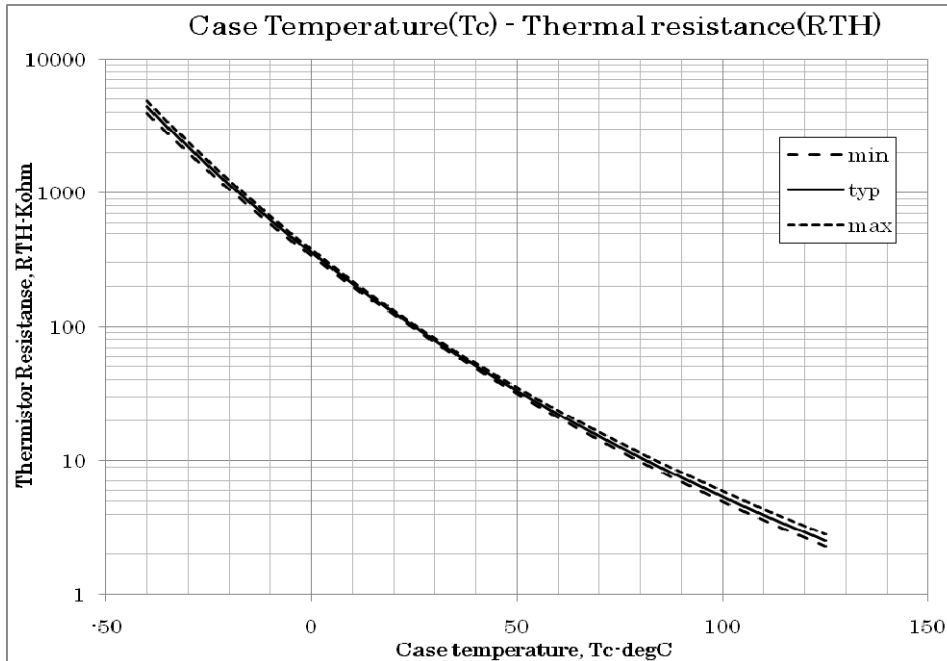
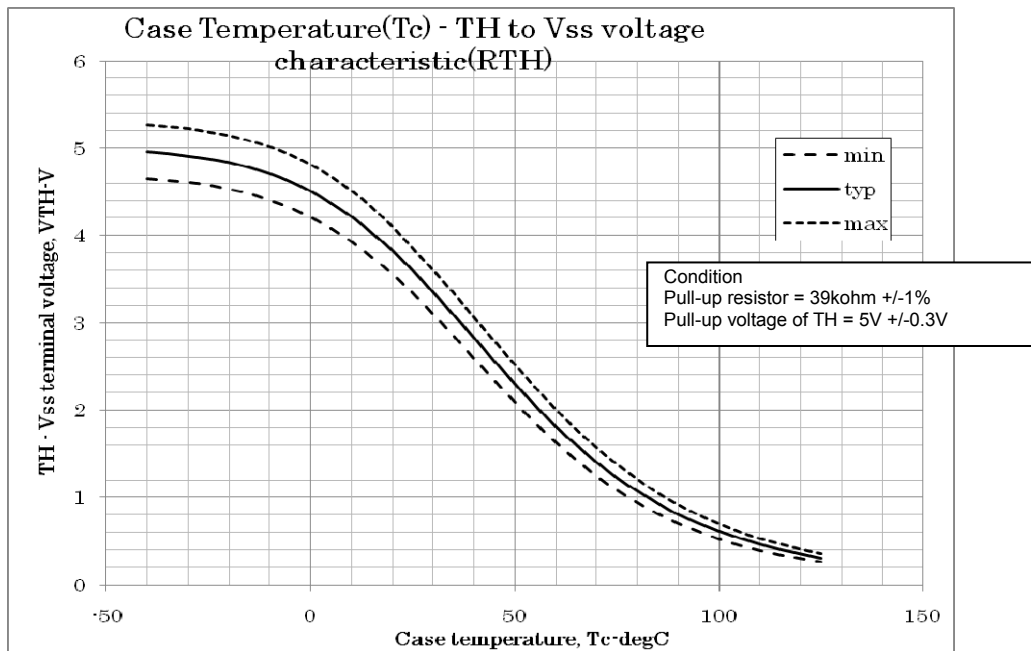

Fig.10 Variation of thermistor resistance with temperature
Fig.11 Variation of temperature sense voltage with thermistor temperature
4. Inside the IPM, a thermistor used as the temperature monitor for internal substrate is connected between "TH1" and "TH2" . Generally, one of terminals is connected to VSS, and the other is pulled up to external power supply with pull-up resistor (Rp) externally. The temperature monitor example application is as follows please refer the Fig.10 and Fig.11 below.